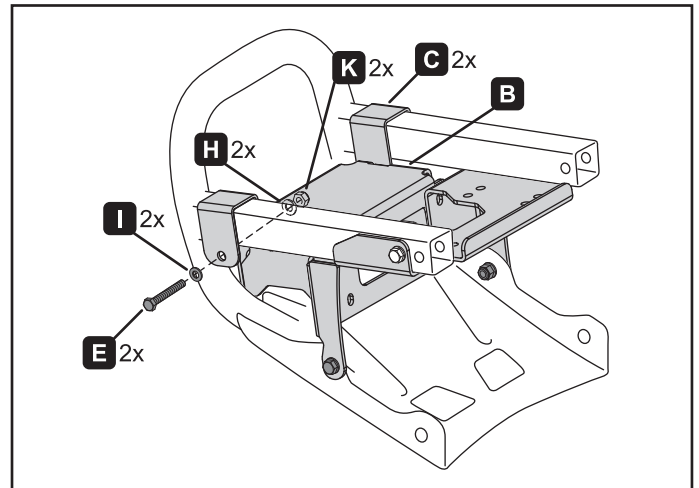

Figure 3.
3. Loosely install the fairlead bracket (B) and support brackets (C) with bolts (E), washers (H, I) and nuts (K) as shown in figure 3.